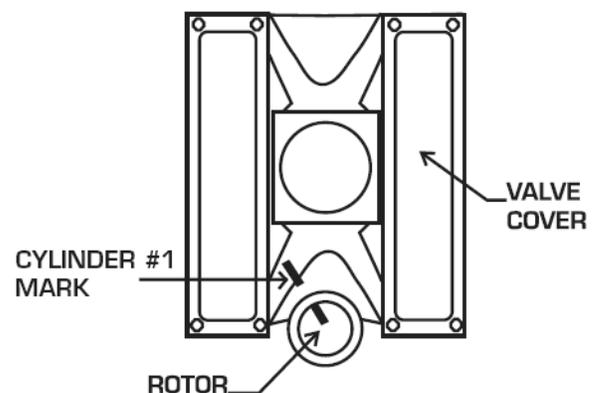

Figure 4 - Marking Rotor Position
2. Liberally apply assembly lube to the distributor gear. Install the distributor (using the supplied gasket) so that the rotor comes to rest pointing at what will be the #1 terminal on the cap (**See Figure 4**). Position the cap such that #1 is in the same location as it was on your previous distributor. Remove and reinsert the distributor to align the distributor, if necessary. Make sure the distributor seats down completely and has fully engaged the oil pump drive. You may need to rotate the oil pump shaft.